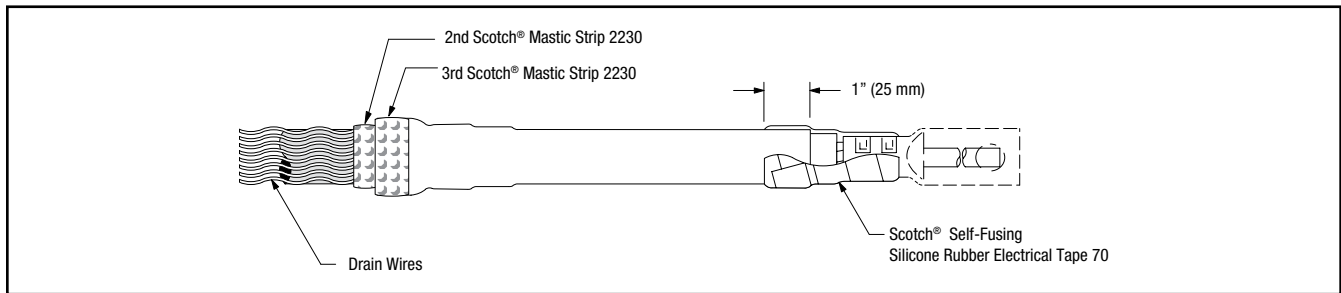

Figure 22
- e. Select second Scotch® Mastic Strip 2230 from kit and remove white release liners. Using light tension, apply a **SINGLE WRAP** of mastic over previously applied mastic. Add another **SINGLE WRAP** of mastic adjacent to the second wrap of mastic that was just applied, directly on top of the termination body (Figure 22). Cut off excess.